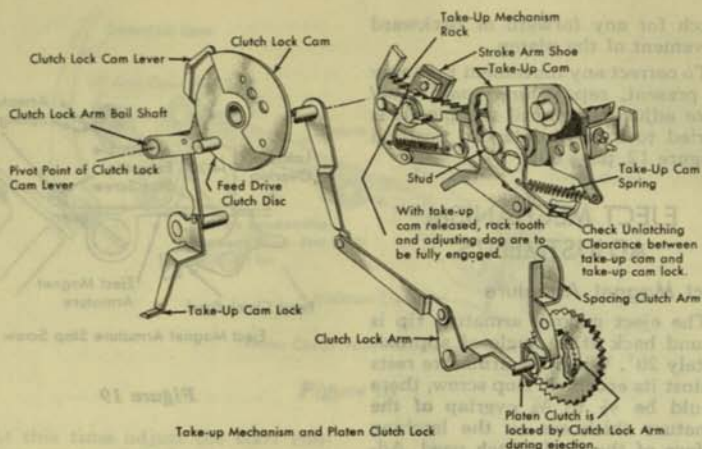

Figure 21
4. Check to see that the platen clutch is positively locked at this time. This locking action is designed to prevent the platen clutch from slipping during ejection (Figure 21).